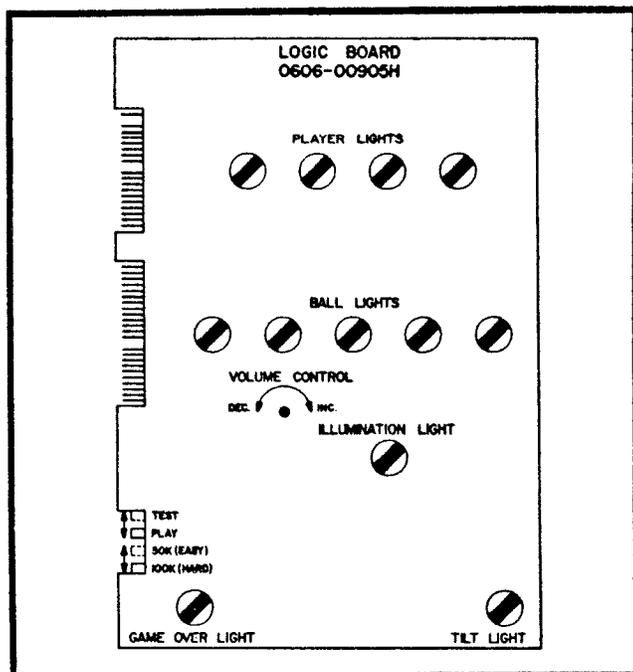

Fig. 9-1. Layout of logic board showing locations of 50K/100K switch and diagnostic test switch.
6. An extra ball is awarded when the ball played passes over the lower-outside rollover switch while the extra-ball lights are lit. When the top rollover switches are made and the extra ball switch in the easy position (50K), scores of 50,000, 100,000, and 150,000 are awarded; if the switch is in the hard position (100K), scores of 100,000, 200,000, and 300,000 are awarded. Refer to Fig. 9-1 for the location of the easy/hard extra ball switch. Extra balls may be accumulated if more than one feature is scored and are indicated by the same-player-shoots-again light on the lower playfield.
7. The diagnostic switch is provided only for test purposes and must be in the play position for the game to operate. See Fig. 9-1.
8. The volume control is located on the logic board. The volume can be varied by rotating the control as indicated in Fig. 9-1.